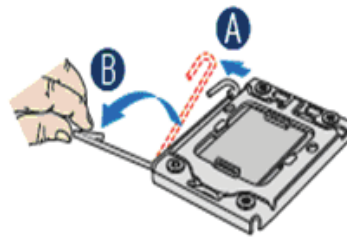
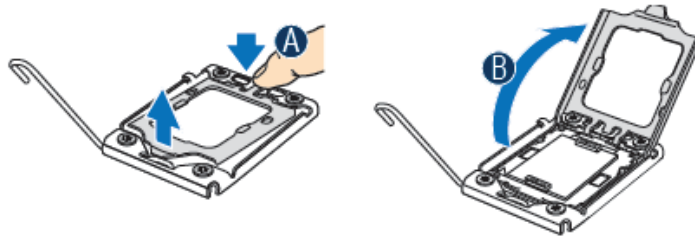

Figure 20. Lifting the Load Lever
Figure 21. Open the Load Plate
5. Locate the processor socket and open the socket lever (see Figure 20).
6. Open the load plate (see letter “A” in Figure 20 and letter “B” in Figure 21).